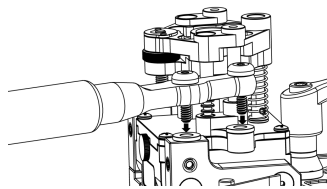

FIG. 3
1. To mount the handle, choose which side you prefer to use the Pocket Mill Pro, opposite the hand you use your drill with. Start by putting the (2) 1/4" washers (Part #3) followed by the handle (Part #4) and (2) 10-32 x 3/8 Stainless Steel Shoulder Bolts (Part #5).(See Figure 3.)